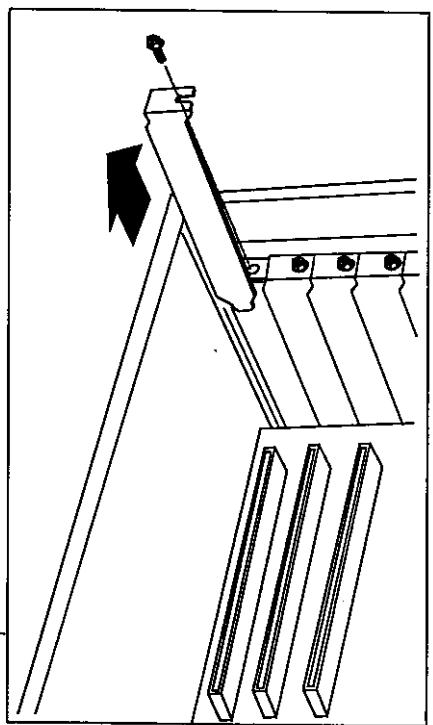

Figure 7. Remove Screw and Slot Cover
5. Remove the screw and slot cover for the slot you have chosen (Figure 7). Save the screw.